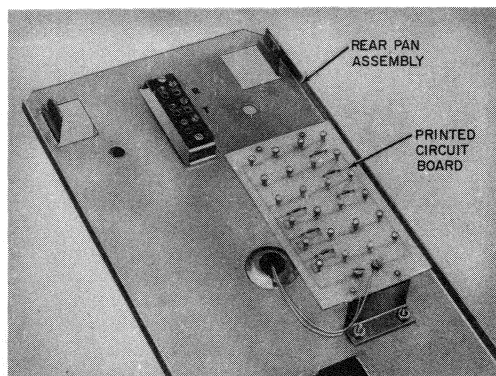

Fig. 16—Printed Circuit Board (Part of D-180941 Kit of Parts) Mounted to Rear Pan Assembly of 10A Coinless Telephone Set
- (4) Next the rear pan assembly is modified. The printed circuit board, which has two metal brackets riveted to it, is mounted over the four studs protruding from the pan. The circuit board assembly is fastened in place by using the four 8-32 nuts supplied in the kit. The circuit board must be mounted with the screw terminals at the bottom as shown in Fig. 16. The 24 light emitting diodes are powered by the 2012A (MD) or 2012C transformer supplied in the kit. Two 27 gauge wires (furnished by the operating company) are connected between the transformer and the two screw terminals on the printed circuit board. The transformer will